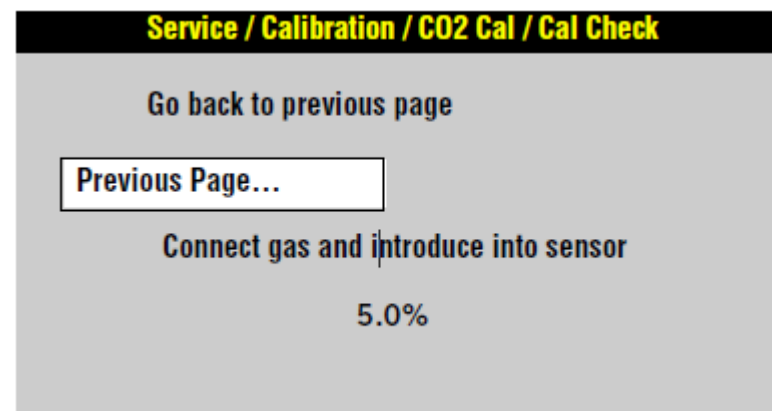

Figure 1.22—Service/Calibration submenu
7. Verify that the measured gas concentration reads $5.0\% \pm 0.5\%$ as shown in Figure 1.22. **NOTE:** If the measured value is incorrect, perform TCP - CO2 Calibration.